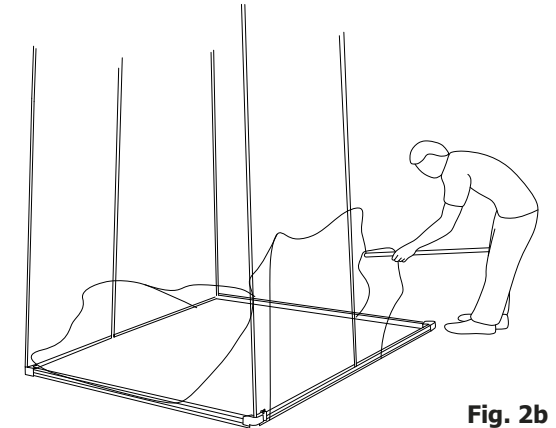

Fig. 2b
**Step 6:** Working counterclockwise around the booth, repeat for each of the remaining 5 white vertical poles (Item D). Each time allow the pole to pass through the hem and the liner to collect to the middle of each vertical tube so as not to stress the hem during assembly. Fig. 2b (below)